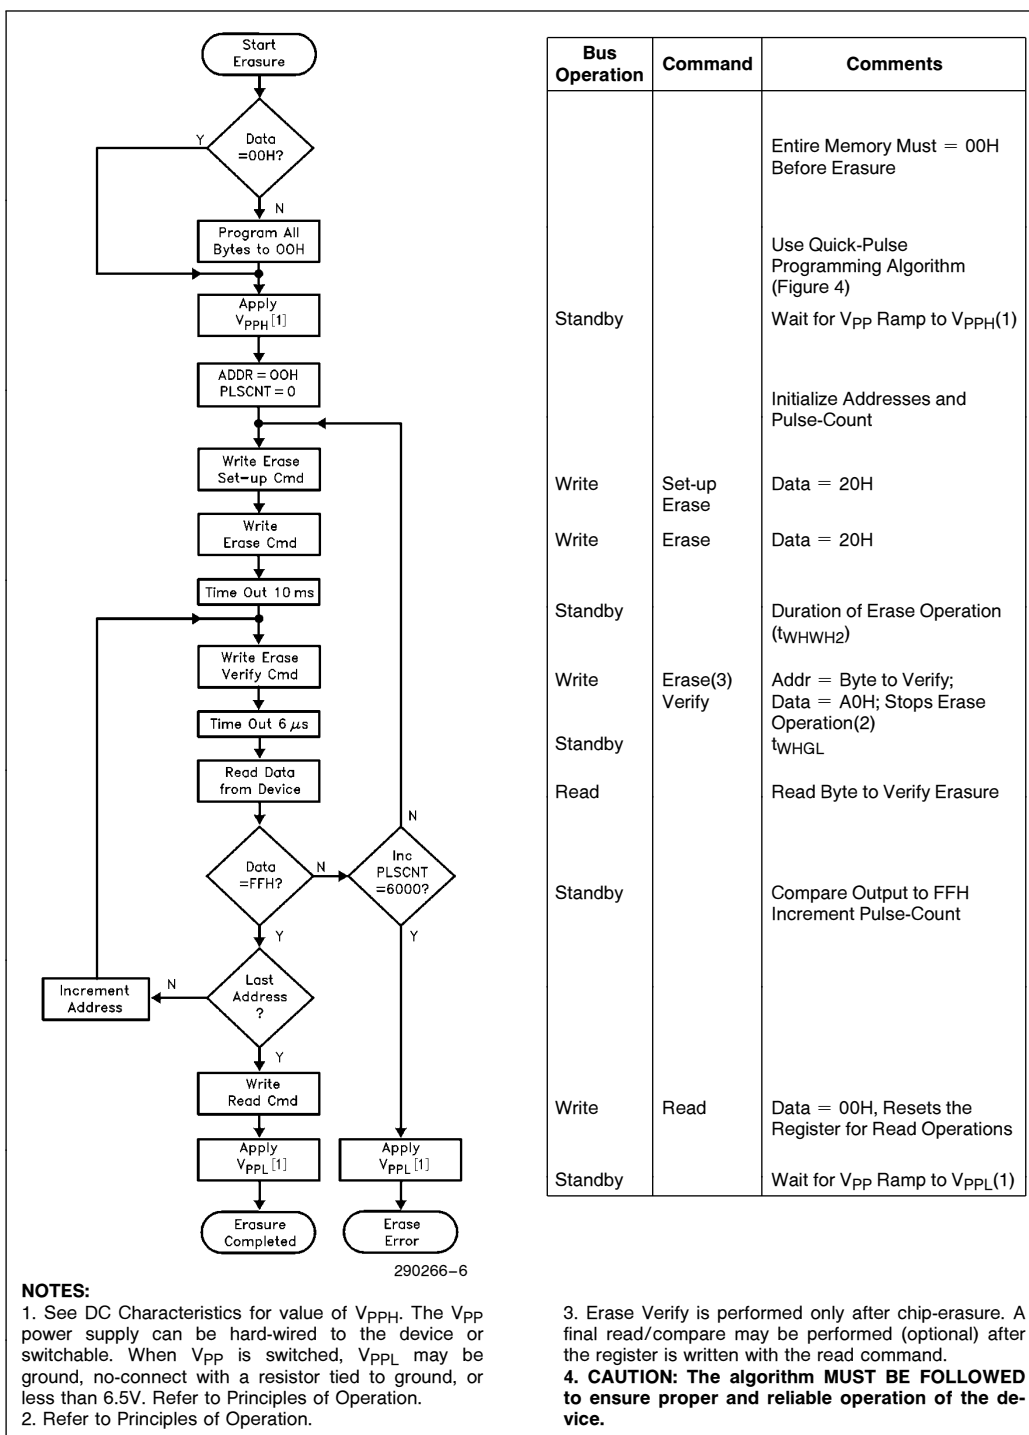

Figure 5. A28F010 Quick-Erase Algorithm
- Figure 5 illustrates the Quick-Erase Algorithm.
In the case where the data read is not FFH, another erase operation is performed. (Refer to Set-up Erase/Erase). Verification then resumes from the address of the last-verified byte. Once all bytes in the array have been verified, the erase step is complete. The device can be programmed. At this point, the verify operation is terminated by writing a valid command (e.g. Program Set-up) to the command register. Figure 5, the Quick-Erase algorithm, illustrates how commands and bus operations are combined to perform electrical erasure of the 28F010. Refer to A.C. Erase Characteristics and Waveforms for specific timing parameters.
Erase execution then continues with an initial erase operation. Erase verification (data = FFH) begins at address 0000H and continues through the array to the last address, or until data other than FFH is encountered. With each erase operation, an increasing number of bytes verify to the erased state. Erase efficiency may be improved by storing the address of the last byte verified in a register. Following the next erase operation, verification starts at that stored address location. Erasure typically occurs in one second. Figure 5 illustrates the Quick-Erase algorithm.